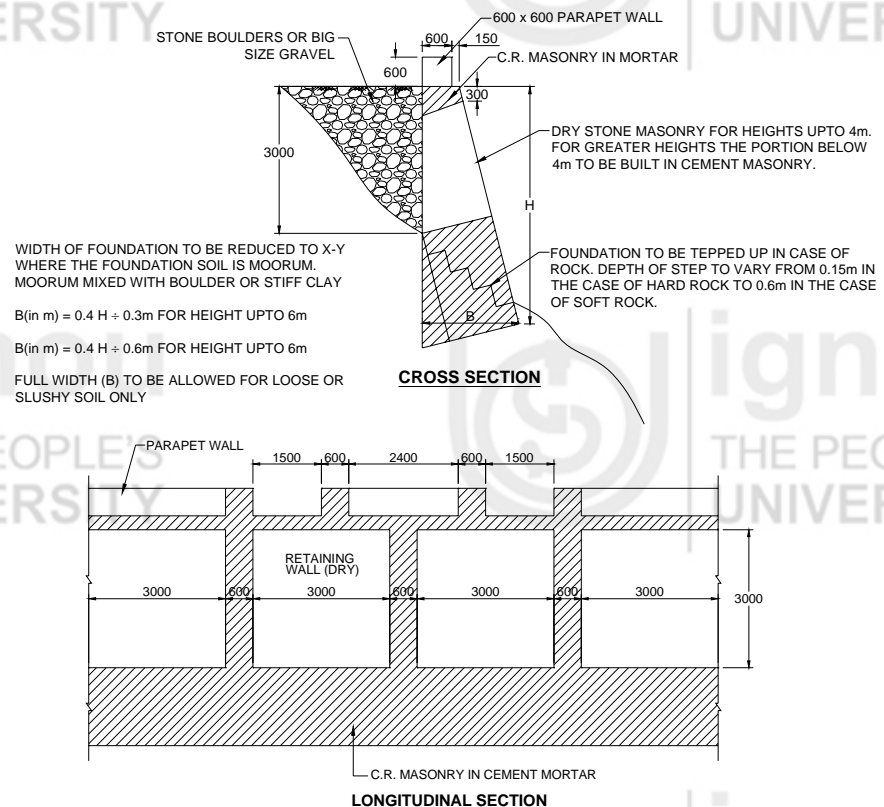

Figure 6.1 : Typical Design for a Retaining Wall
Needed to retain the fill portion, and generally constructed in dry stone masonry with pucca bunds (Figure 6.1).
Needed for protecting vehicles from falling into the valley (Figure 6.1).
- (c) Refer Figures 6.1, 6.2 and 6.3